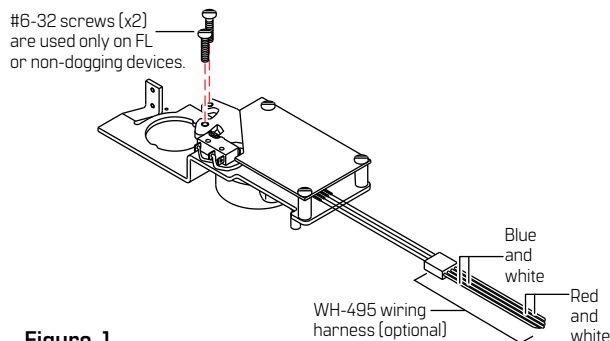

Figure 1
- 1.1 Connect WH-495 wiring harness, as shown in Fig. 1.
- 1.2 Install two #6-32 screws and tighten securely, as shown in Fig. 1.
- 1 Plug in WH-495 wiring harness, as shown in Fig. 1.
- 1 Plug in optional WH-495 wiring harness, as shown in Fig. 1.